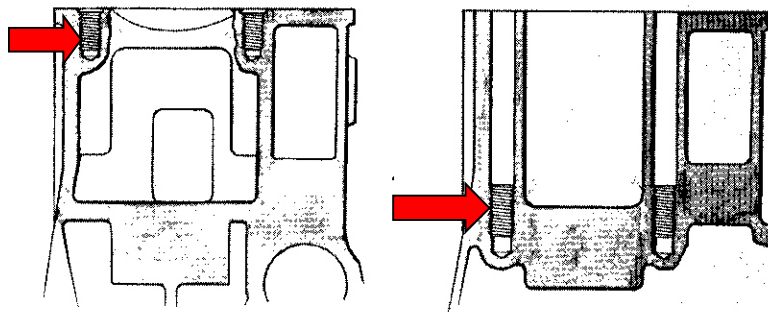

Figure 2 – Location of Head Stud Bosses:
1. **Head Gasket:** to cope with the higher compression ratio, a considerably greater torque (increased from 60-65 lbf.ft to 100-105 lbf.ft) had to be applied to the head nuts. This caused the upper surface of the block to lift around the studs and, as a consequence, the head gaskets blew. Solution (see Figure 2): the block casting was modified so that the studs screwed into the base of the block (i.e. the upper part of the crankcase chamber), thereby putting the water jacket into compression rather than tension. In addition, the extra torque on the head nuts squashed the figure of 8 seals at the base of the liners to such an extent that the small upstand of the liners above the block was lost, which caused the head gasket to blow! A change of the figure of 8 seals, from a soft material to copper, solved the problem. As a further precaution (remember that the liners should sit only a few thousands of an inch above the top of the block), production tolerances on the various components were reduced.